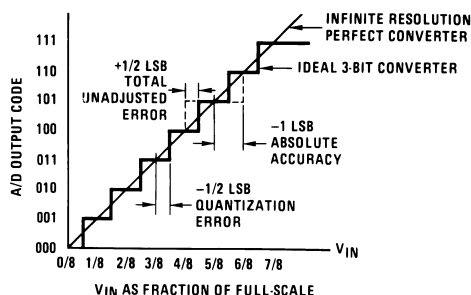
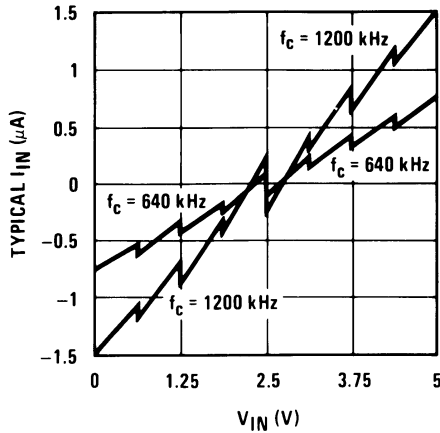

Figure 3. 3-Bit A/D Absolute Accuracy Curve
Figure 6. Comparator  $I_{IN}$  vs.  $V_{IN}$  ( $V_{CC} = V_{REF} = 5V$ )
- (1) Total unadjusted error includes offset, full-scale, and linearity errors. See Figure 3. None of these A/Ds requires a zero or full-scale adjust. However, if an all zero code is desired for an analog input other than 0.0V, or if a narrow full-scale span exists (for example: 0.5V to 4.5V full-scale) the reference voltages can be adjusted to achieve this. See Figure 13.
- (2) Two on-chip diodes are tied to each analog input which will forward conduct for analog input voltages one diode drop below ground or one diode drop greater than the  $V_{CC}$  supply. The spec allows 100 mV forward bias of either diode. This means that as long as the analog  $V_{IN}$  does not exceed the supply voltage by more than 100 mV, the output code will be correct. To achieve an absolute 0  $V_{DC}$  to 5  $V_{DC}$  input voltage range will therefore require a minimum supply voltage of 4.900  $V_{DC}$  over temperature variations, initial tolerance and loading.
- (3) Comparator input current is a bias current into or out of the chopper stabilized comparator. The bias current varies directly with clock frequency and has little temperature dependence (Figure 6).
The average value of the comparator input current varies directly with clock frequency and with  $V_{IN}$  as shown in Figure 6.